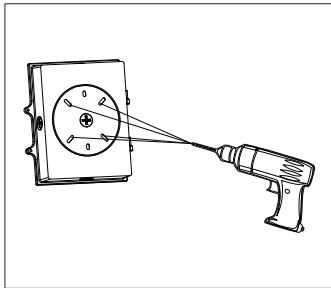
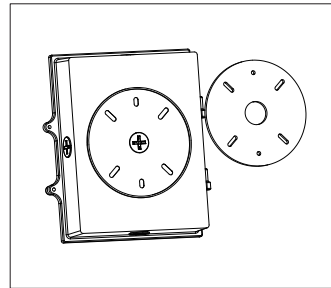

Figure 5
Figure 6
Step 3: Drill an installation holes at the bottom of light, paste the EVA mat(Figure 5 & Figure 6);